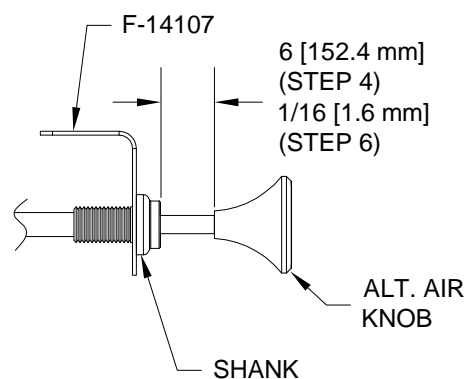

FIGURE 3: ALT. AIR CONTROL CABLE
Step 3: Pull the alt. air knob out until there is a large (greater than 6 in. [152.4 mm]) gap between the knob and the shank. See Figure 3.